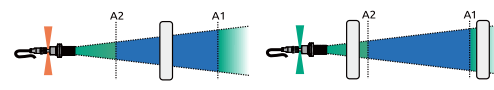

Figure 19 - Trigger on out of range: on approach (S<A2) or on approach (S>A1)
- The output signal toggles when an object is at a certain distance (S) within the configured range. The working principle is shown in Figure 19. When the object is not in or out of the set range, the output turns off. The user range needs to be set during operation:  $A1 > A2$ .